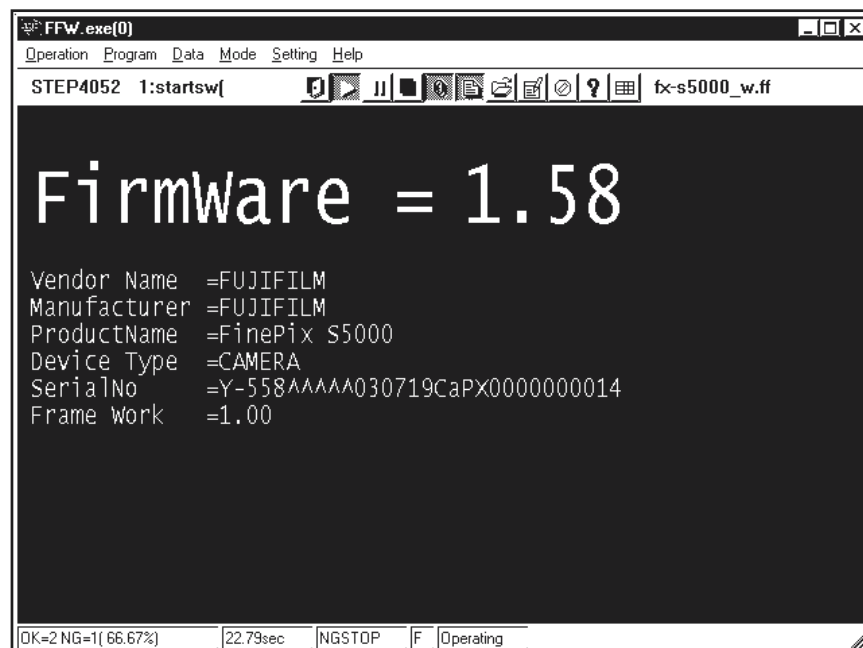

Fig.4
---> The [Firmware Display Screen (Fig.4)] appears. (Firmware Confirmation Screen)